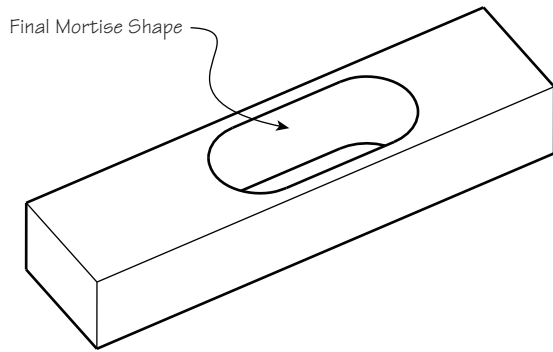

Figure 4: Final mortise shaping.
4. Trim the waste with a chisel (see **Figure 4**).